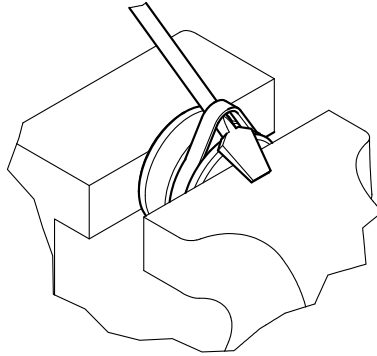

Figure 4-8, Piston Seal
2. Note the direction of the seal on the piston. Improper installation will result in poor performance. The cupped side or O-ring side of the seal should be facing the gland cap. (Figure 4-8)